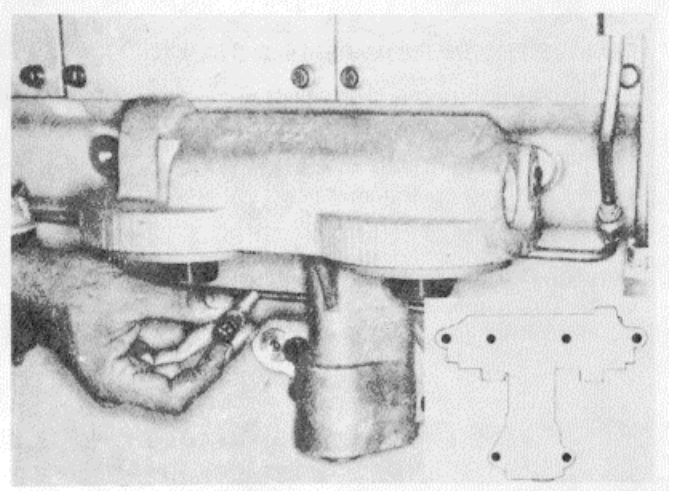

Figure 16N-84. Install the Lube Oil Filter Head
3. Start with the inside center capscrews, Figure 16N-84. Tighten the capscrews alternately and evenly to 30 to 35 ft-lbs (41 to 47 N.m) torque.
4. Install the throw-away type filter elements, Figure 16N-85. Coat the seal with clean engine lubricating oil. Tighten by hand until the seal touches the filter head and then tighten an additional one-half to three-fourths turn.